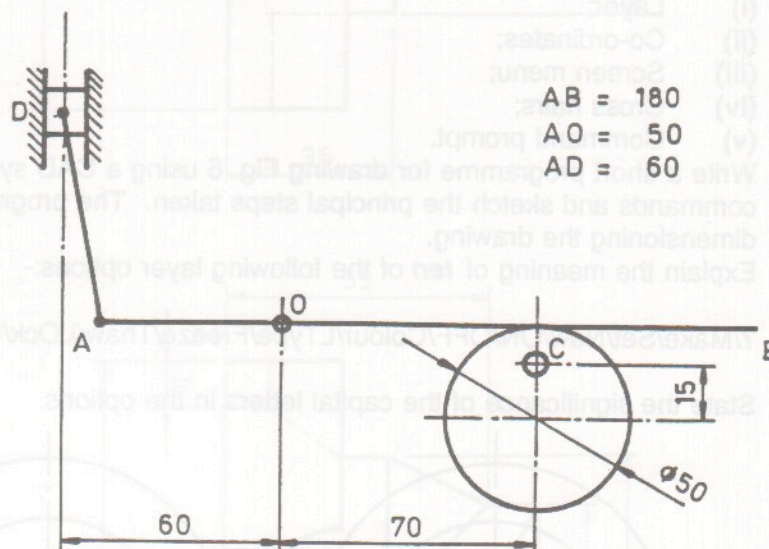

FIG. 5
- (b) In the mechanism shown in Fig. 5 the lever AB turns about the fixed point O, due to the rotation of the 50 mm eccentric cam about its axis of rotation C. A connecting rod AD, which is pin-jointed to AB, causes the piston to reciprocate in the cylinder as shown. Draw the mechanism in the position shown and also in the position which shows the piston at the lowest point of travel and the lever AB turned through its maximum angle. Measure and dimension on the drawing both the angle through which the lever turns and the length of stroke of the piston.